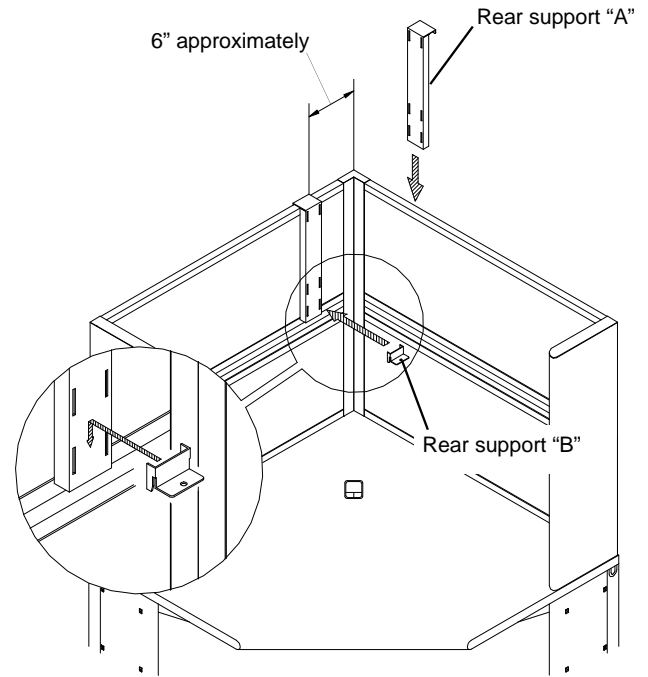

Figure 4
3. Install one **Rear Support "A"** and one **Rear Support "B"** on each side of the Organizer. See **Figure 4**.